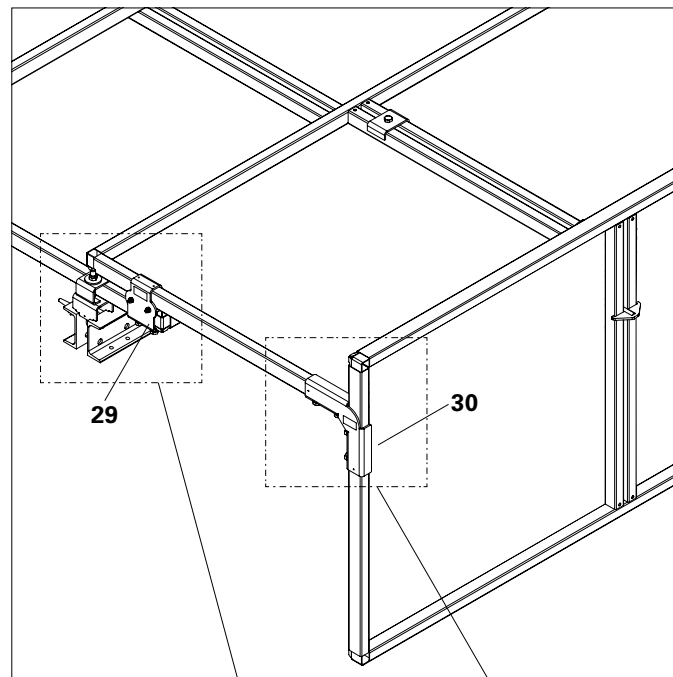

Fig. C2.08
2. Insert End Screen Adapter at the corners, from above or from below, over the edge frames of the Screen Element (21) and Telescopic Screen (22).
- (Fig. C2.08 + C2.09)
- (Fig. C2.08 + C2.10)